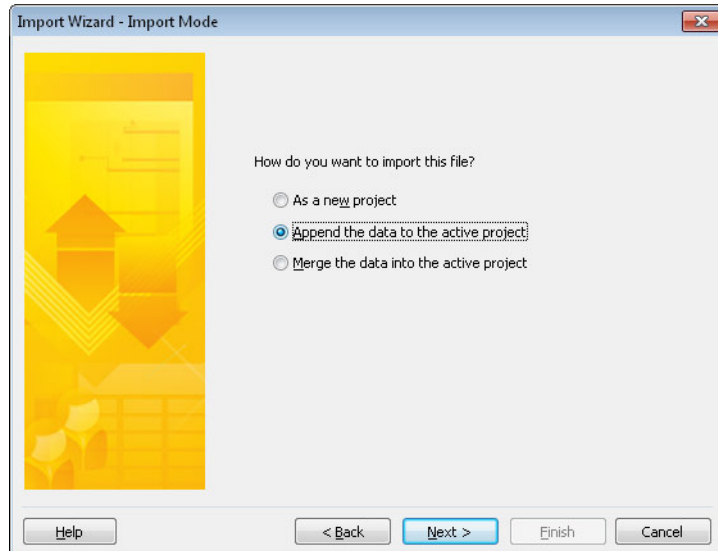

FIGURE 5-7 The Append The Data To The Active Project option lets Project to add the resources to blank rows in the Resource Sheet.
11. On the Import Wizard – Import Mode page, select Append The Data To The Active Project, as shown in Figure 5-7, and then click Finish.